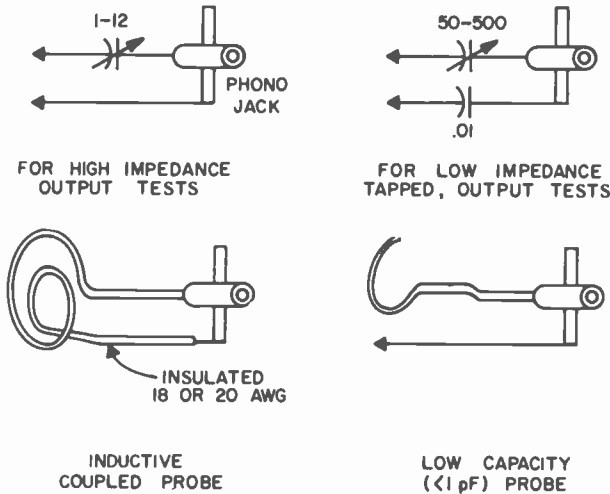

Fig. 7-4. Coupling methods.
*Diode detector cable probes.* Have a collection of these on hand as in Fig. 7-4. You can use them also to feed rf into a pilot light, connect up to your lab receiver, etc.